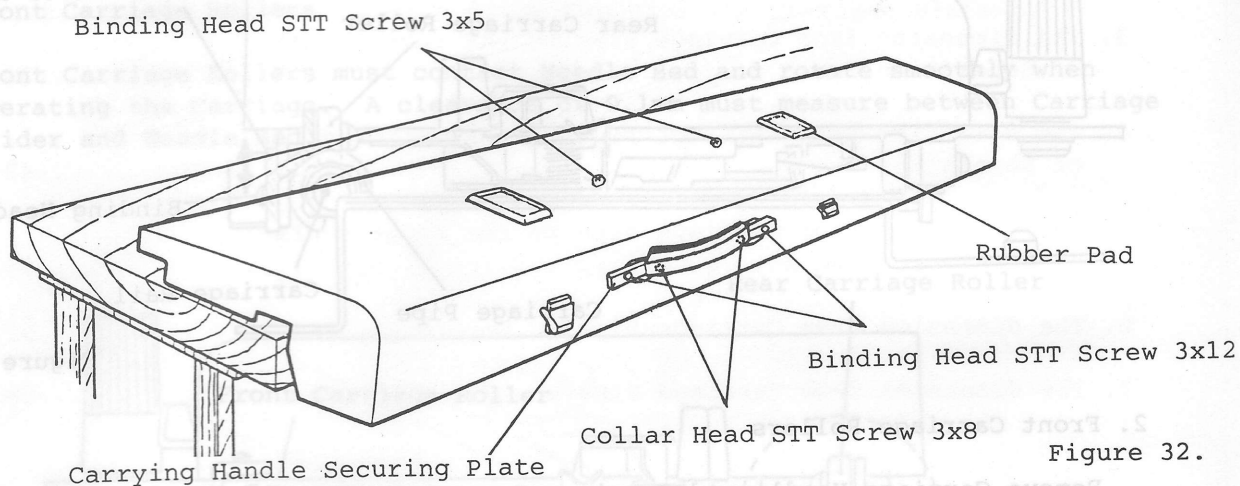

Figure 32.
1. Place the machine upside down as shown in Figure 32, and remove two Binding Head STT Screws 3x5 located between Rubber Pads.